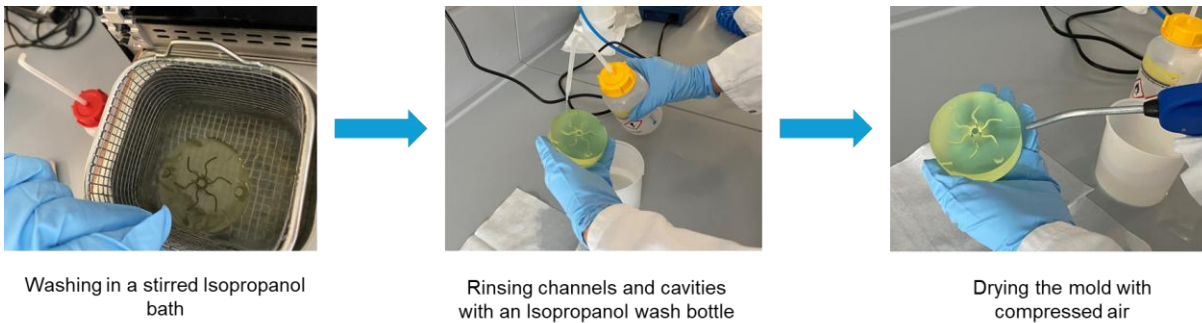

Figure 2: Washing of the mold after printing.
- An illustration is shown in Figure 2.